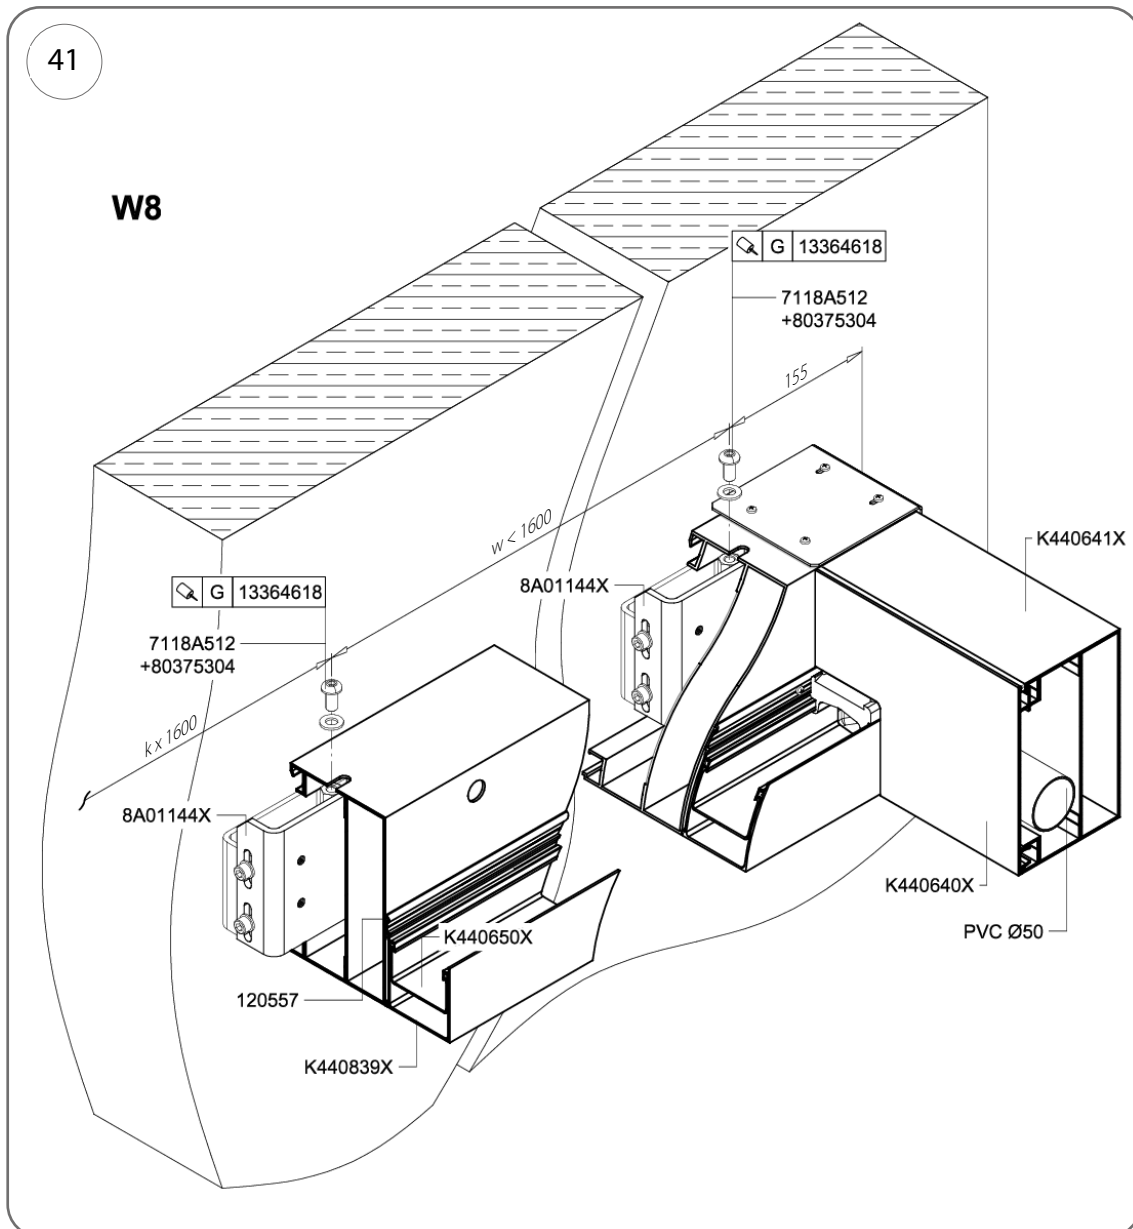

Fig. 41
2. Mark out points on the wall corresponding to the slotted holes milled into the top surface of the wall rafter as shown in Fig. 41; the outer holes should be 155 mm from the ends of the rafters and the distance between intermediate brackets should not exceed 1600 mm.